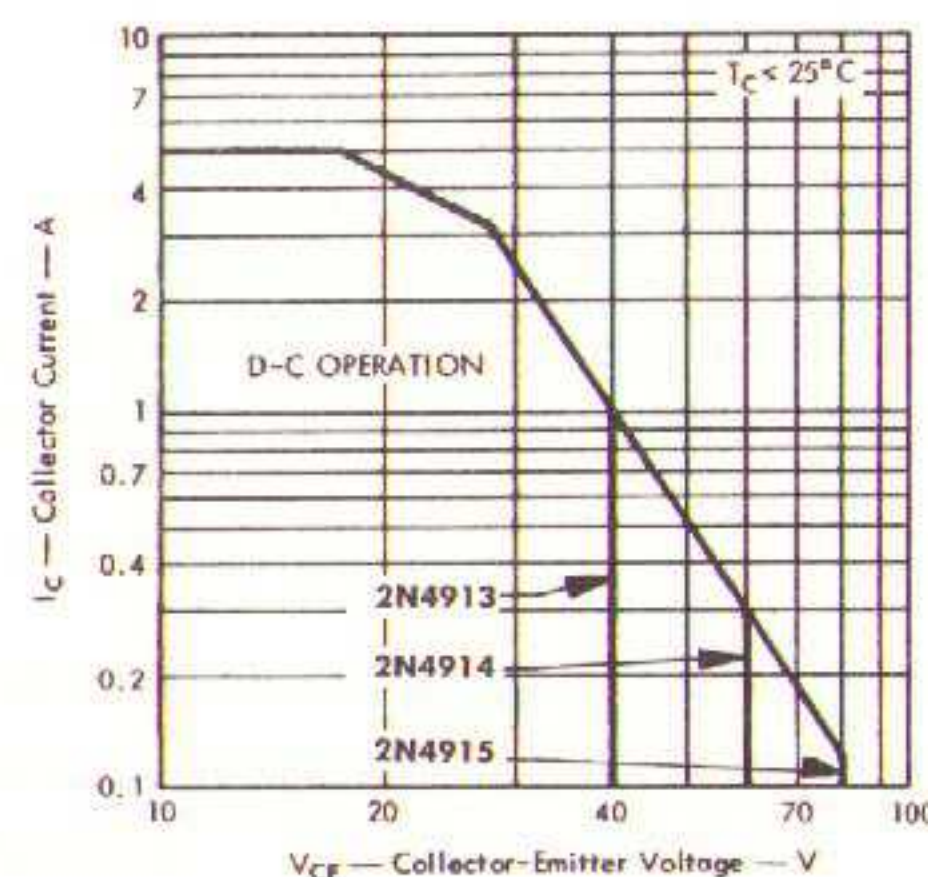

FIGURE 6
*Safe Operating Region at (or below) 25°C Case Temperature	See Figures 6 and 7